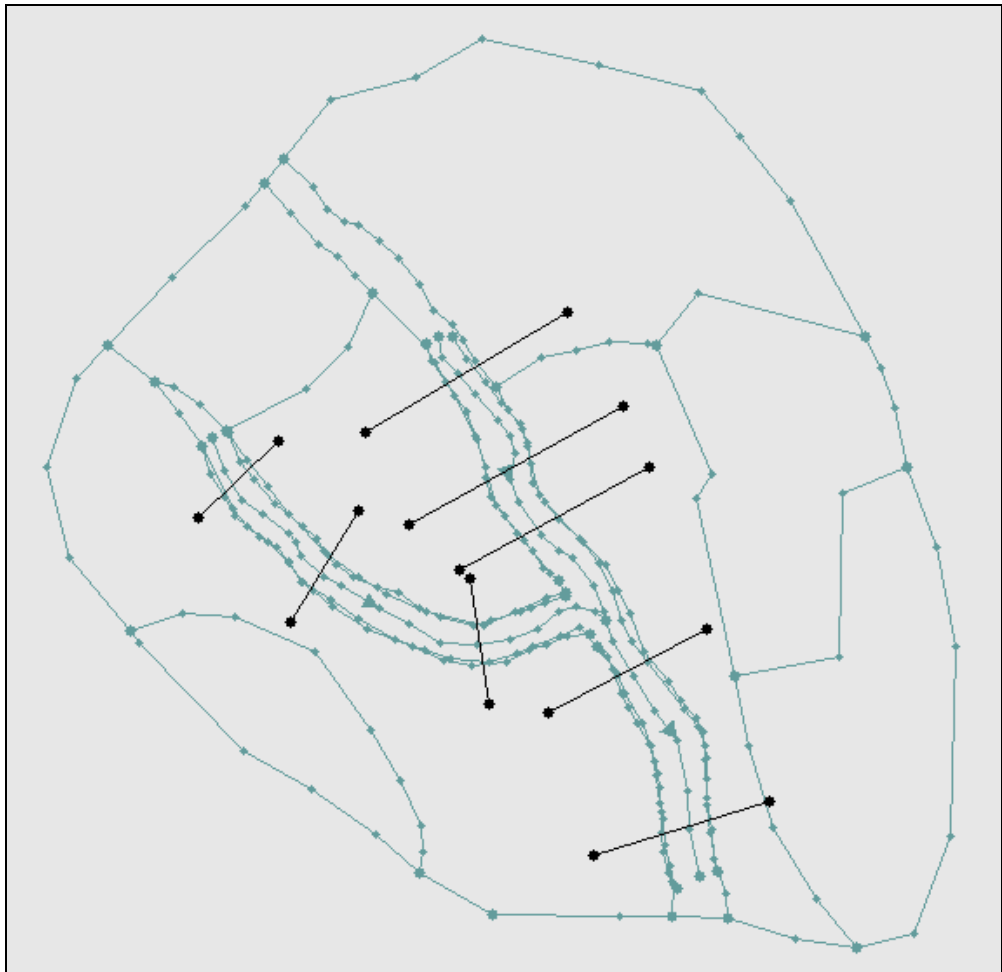

Figure 23-5 Cross-section coverage
25. Create at least two cross-sections on each reach by clicking a point on one side of the reach then double-clicking a point on the other side of the reach as shown in Figure 23-5.